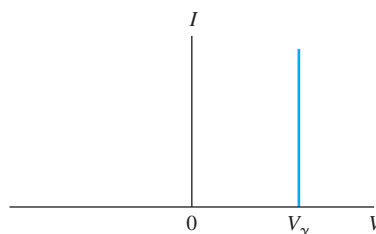
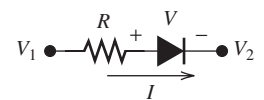

FIGURE 8.6 Diode characteristics: practical model.
FIGURE 8.7 A simple diode circuit.
Instead of using the exact relationship between voltage and current to analyze circuits that contain diodes, approximate models are used. These models simplify the process of analysis of diode circuits. One of these models is the *practical model*, which mimics practical situations. The I – V characteristics of the practical model are shown in Figure 8.6. In this figure, the effect of reverse saturation current is ignored. As discussed earlier, this current is very small (on the order of microamperes) and can be easily ignored in many practical problems. Figure 8.7 represents the diode and its voltage and current. In this figure, the voltage on the anode of the diode and cathode are V_1 and V_2 , respectively. Therefore, the voltage across the diode corresponds to: $V = V_1 - V_2$.
Accordingly, the current–voltage (I – V) model of Figure 8.6 is described as follows:
- Referring to Figure 8.7, $V_S = -10\text{ V}$ means $V_1 - V_2 = -10\text{ V}$. Therefore, the diode is reverse biased (OFF) and the current flowing through it $I = 0$ and the voltage across the diode $V = -10\text{ V}$.
Method 1: Because the voltage available to directly drive the diode is unknown (i.e., $V_1 - V_2$ of Figure 8.7), an assumption must be made of the status of the diode (ON or OFF). This assumption is used to solve the problem, and then the validity of the assumption can be checked by observing the direction of the diode current. For example, when assuming the diode is ON, the assumption will be valid if the current through the diode flows from the anode to the cathode, because that situation is consistent with an ON diode.